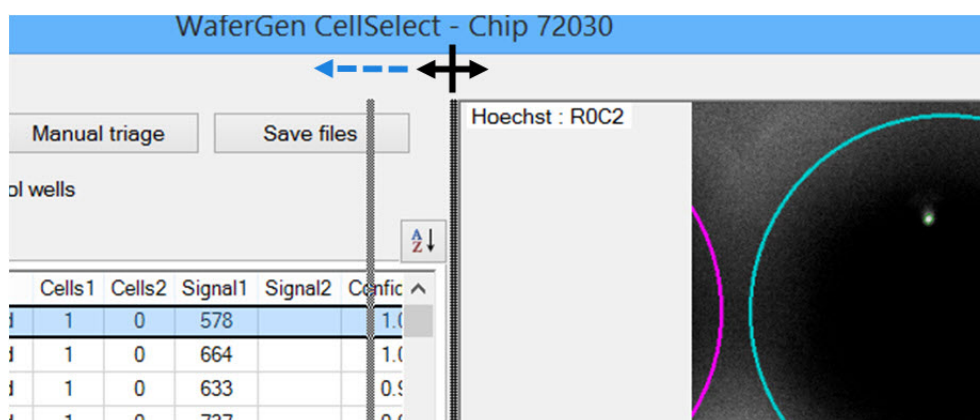

Figure 26. Adjusting the width of the *Image Viewer* window.
**Column/window width:** Column widths can be adjusted by clicking the line between column headings and dragging left or right. In these instances, the appearance of the cursor changes to the  $\leftarrow| \rightarrow$  symbol. Various window/section widths can be adjusted as well. Click the left border of the *Image Viewer* window until the mouse pointer changes to the  $\leftarrow| \rightarrow$  symbol, then drag the border left or right (see Figure 26, below).